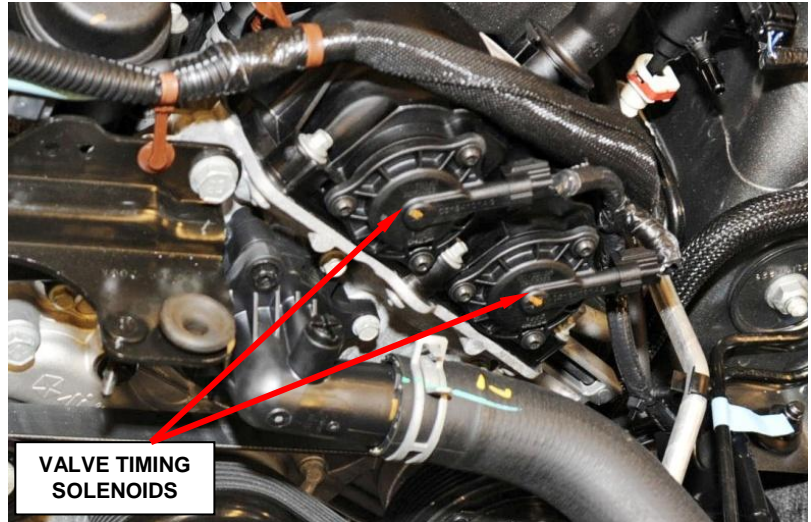

Figure 4 – Valve Timing Solenoids
30. Disconnect the electrical connectors from the variable valve timing solenoids on the left cylinder head (Figure 4).